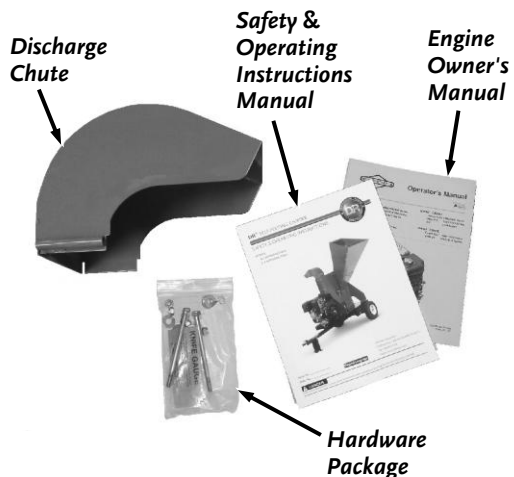

Figure 2
- Parts Box containing (**Figure 2**):